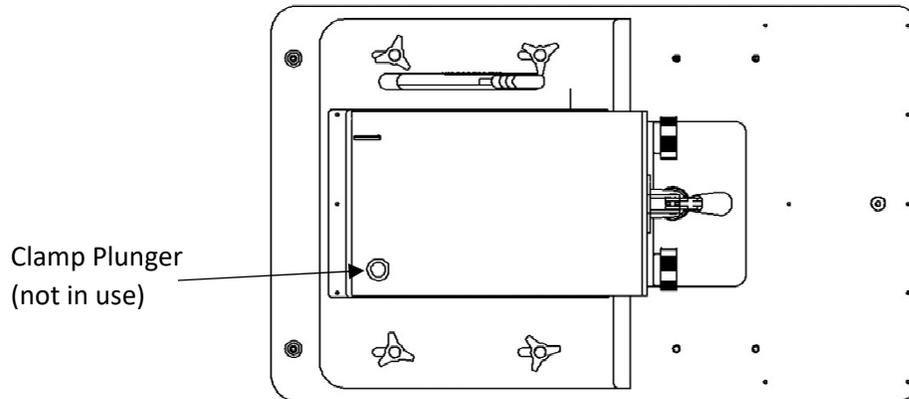

Figure 14: Quick Access Tools
**NOTE: Place the unused clamp plunger into the threaded hole on the back left side of the shroud (near drill motor). This is a designated quick access hole for the plunger. See Figure 14.**